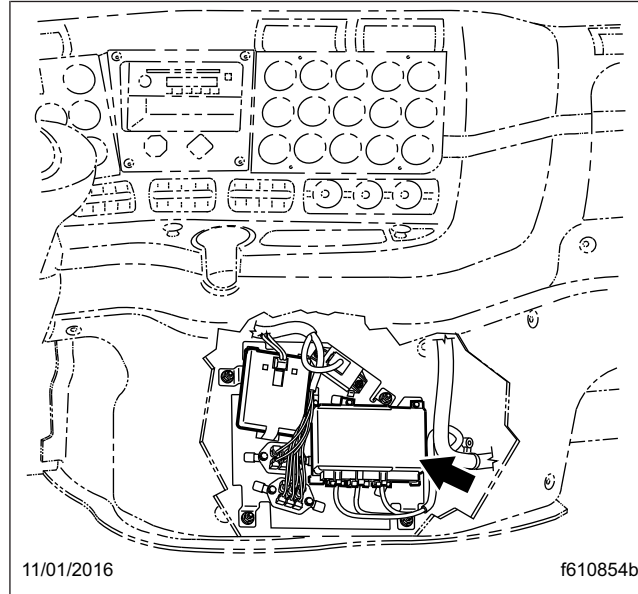

Fig. 2, ABS ECU
2. Access the ABS ECU by removing the dash lower cover. See Fig. 2.